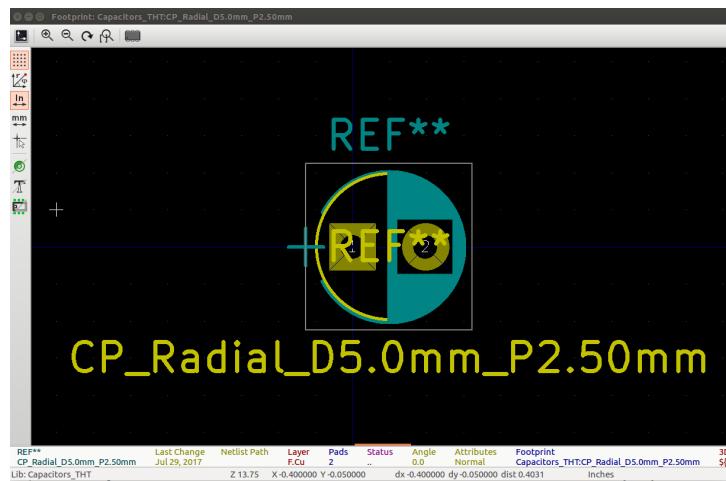
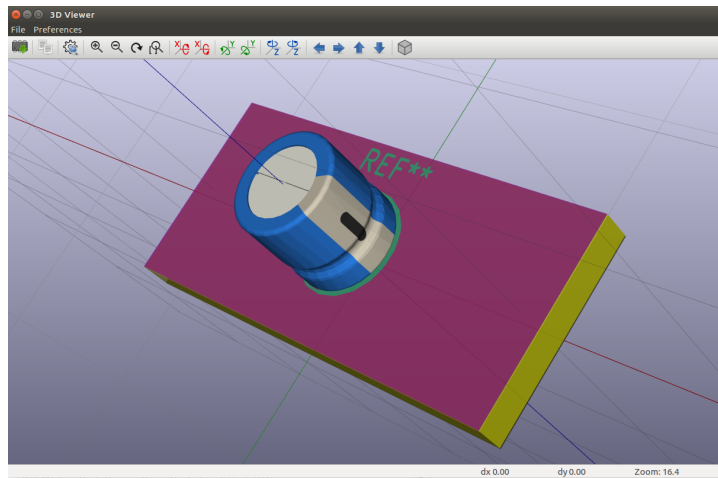

Figure 14.6: Footprint CP_Radial_D5.0mm_P2.50mm's view in 2D.
Figure 14.7: 3D view of the footprint
- To view a footprint in 2D, select the component for which you wish to view the available footprints, then select the library from left-most pane and now from the right pane and click on the desired footprint and click on **View selected footprint** from the menu bar. Let us view a footprint for C1 from the *Capacitors.THT* footprint library. Choose C1 from the middle pane as shown, click on *Capacitors.THT* in the left-most pane and select the *View selected footprint* tool. On clicking the **View selected footprint** tool, the Footprint window with the view in 2D will be displayed. 2D view of the footprint *CP_Radial_D5.0mm_P2.50mm* is shown in Fig. 14.6.
- Click on the 3D Display icon in the Footprint window, as shown in Fig. 14.6. A top view of the selected footprint in 3D is obtained. Click on the footprint and rotate it using the computer mouse to get 3D views from various angles. One such view of the footprint in 3D is shown in Fig. 14.7.